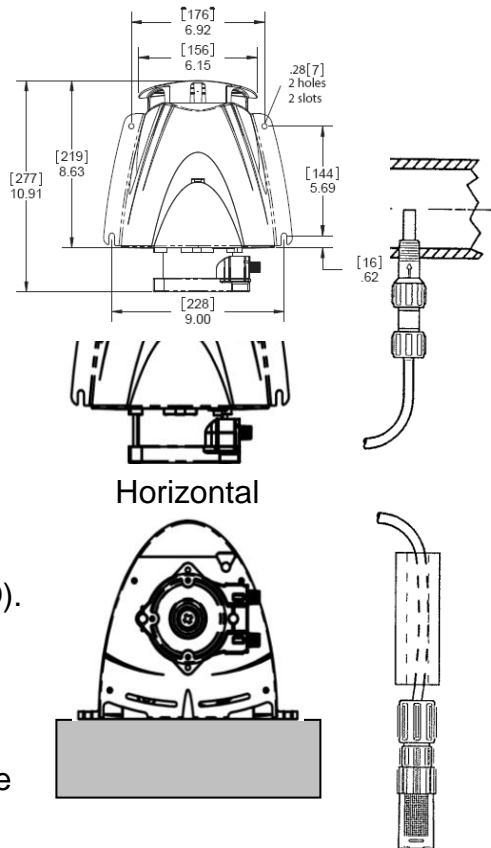

**Figure 1: Pump Dimensions**
Figure 1 provides a quick reference for installation dimensional requirements.
1) The pump can be installed either vertically or horizontally (See Figure 2). Make sure to secure the pump on a flat level surface that will support 50-lbs (22kg) and secure with four .25-in (6mm) screws in the holes provided. The guard snaps into the back of the pump via three tangs -- see Figure 1. The pump should be mounted with no less than 1.75-in